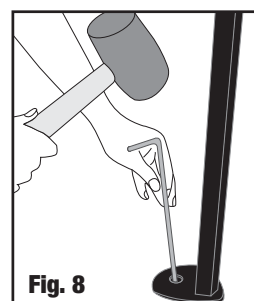

Fig. 8
- Secure shelter by driving stakes through the holes in the base of each frame post. (Fig. 8)